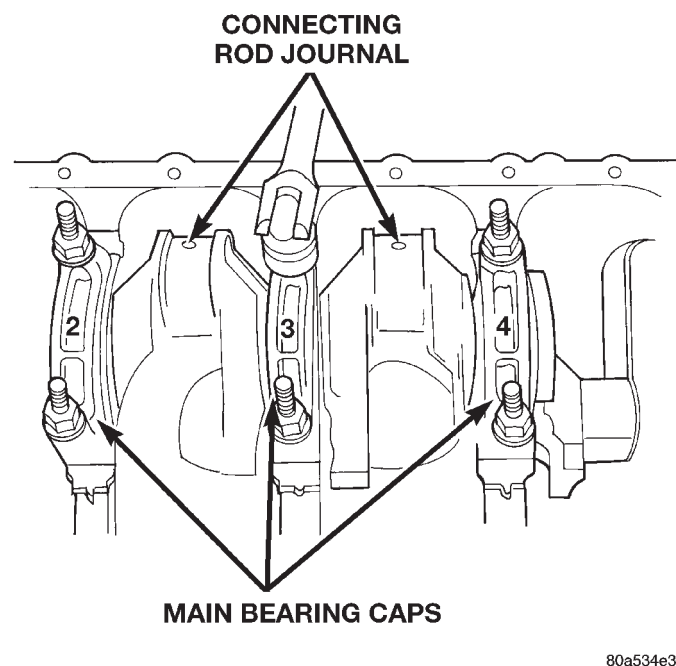
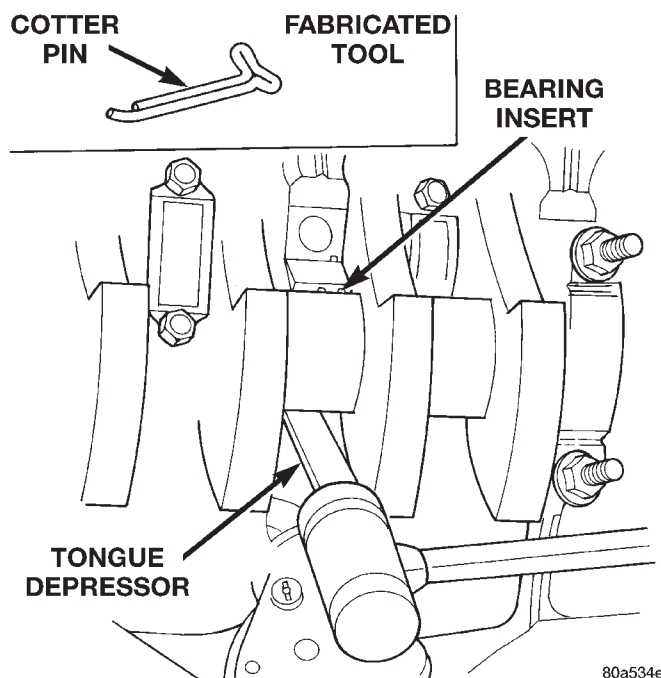

Fig. 52 Removing Main Bearing Caps and Lower Inserts
Fig. 53 Removing Upper Inserts
- (6) Remove only one main bearing cap and lower insert at a time (Fig. 52).
- (7) Remove the lower insert from the bearing cap.
- (8) Remove the upper insert by LOOSENING (DO NOT REMOVE) all of the other bearing caps. Now insert a small cotter pin tool in the crankshaft journal oil hole. Bend the cotter pin as illustrated to fabricate the tool (Fig. 53). With the cotter pin tool in place, rotate the crankshaft so that the upper bearing insert will rotate in the direction of its locking tab. Because there is no hole in the No.3 main journal, use a tongue depressor or similar soft-faced tool to remove the bearing insert (Fig. 53). After moving the insert approximately 25 mm (1 inch), it can be removed by applying pressure under the tab.
- (9) Using the same procedure described above, remove the remaining bearing inserts one at a time for inspection.